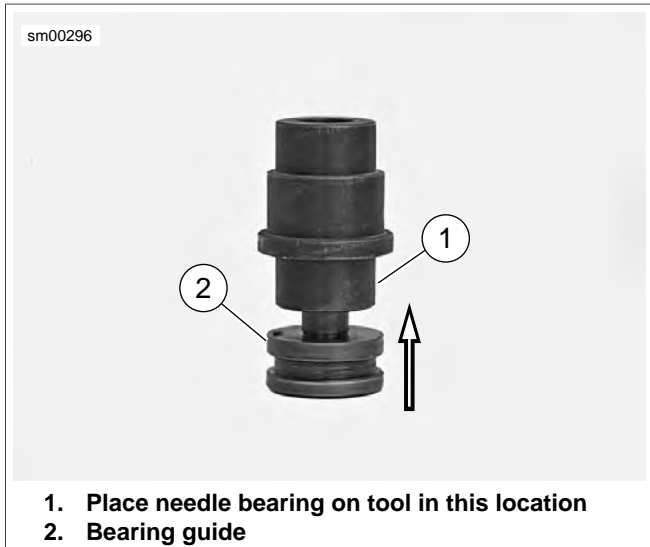

Figure 5-32. Bearing Installer
- See Figure 5-32. Remove bearing guide from end of CLUTCH SHELL BEARING REMOVER/INSTALLER (Part No. B-45926).